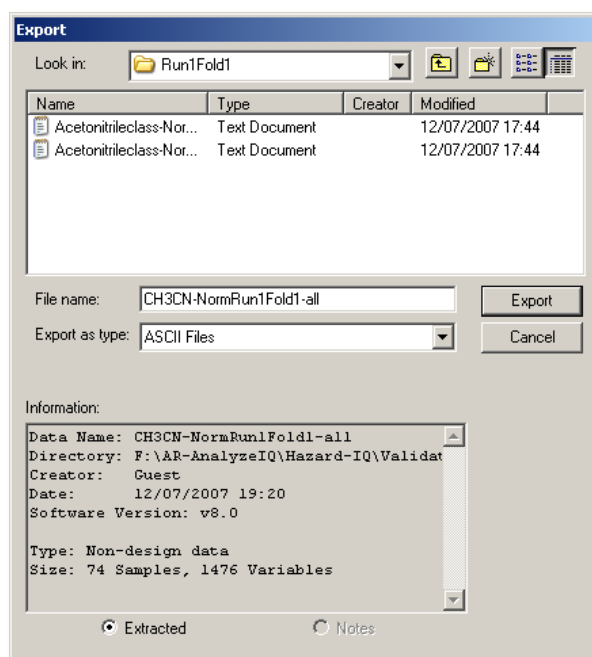

Figure 50: Unscrambler Export window
3. Under the *File* menu, select *Export*, to open the export dialog shown in Figure 50. Select *ASCII Files* as the format, enter the filename and click on *Export*.